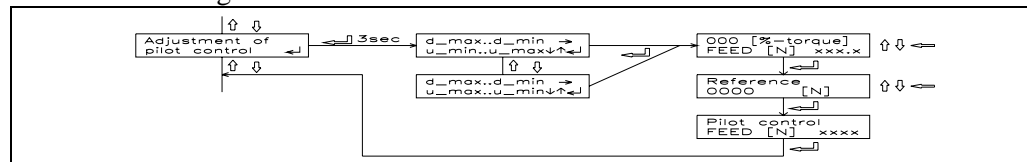

fig. 17: Program flow „Adjustment of pilot control“
- Proceed parameter function *Adjustment of pilot control* (ref. to „11. Parametrisation“ and fig. 17). The reel diameter has to be the same as during the test run.